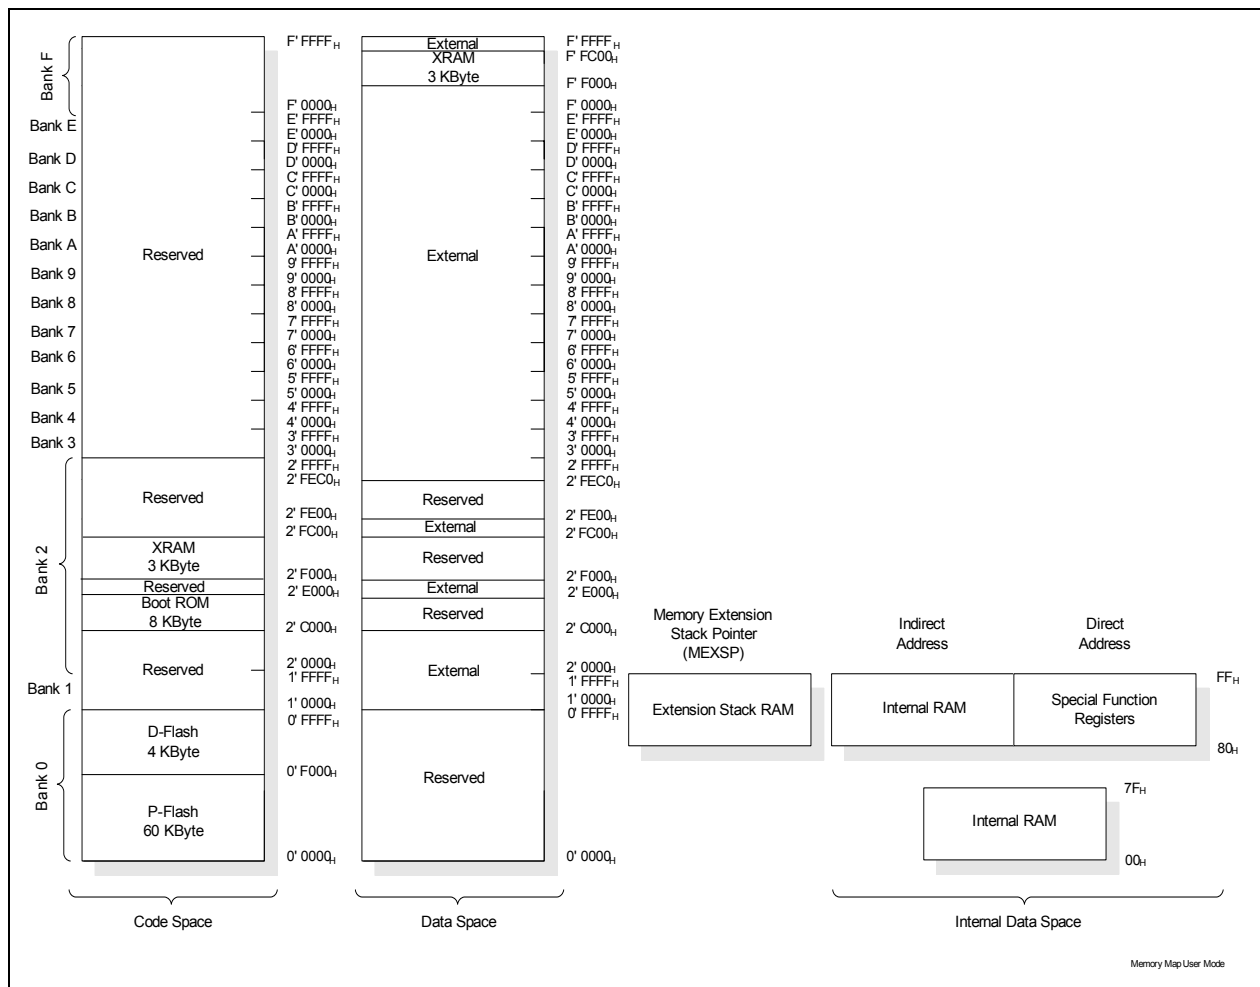
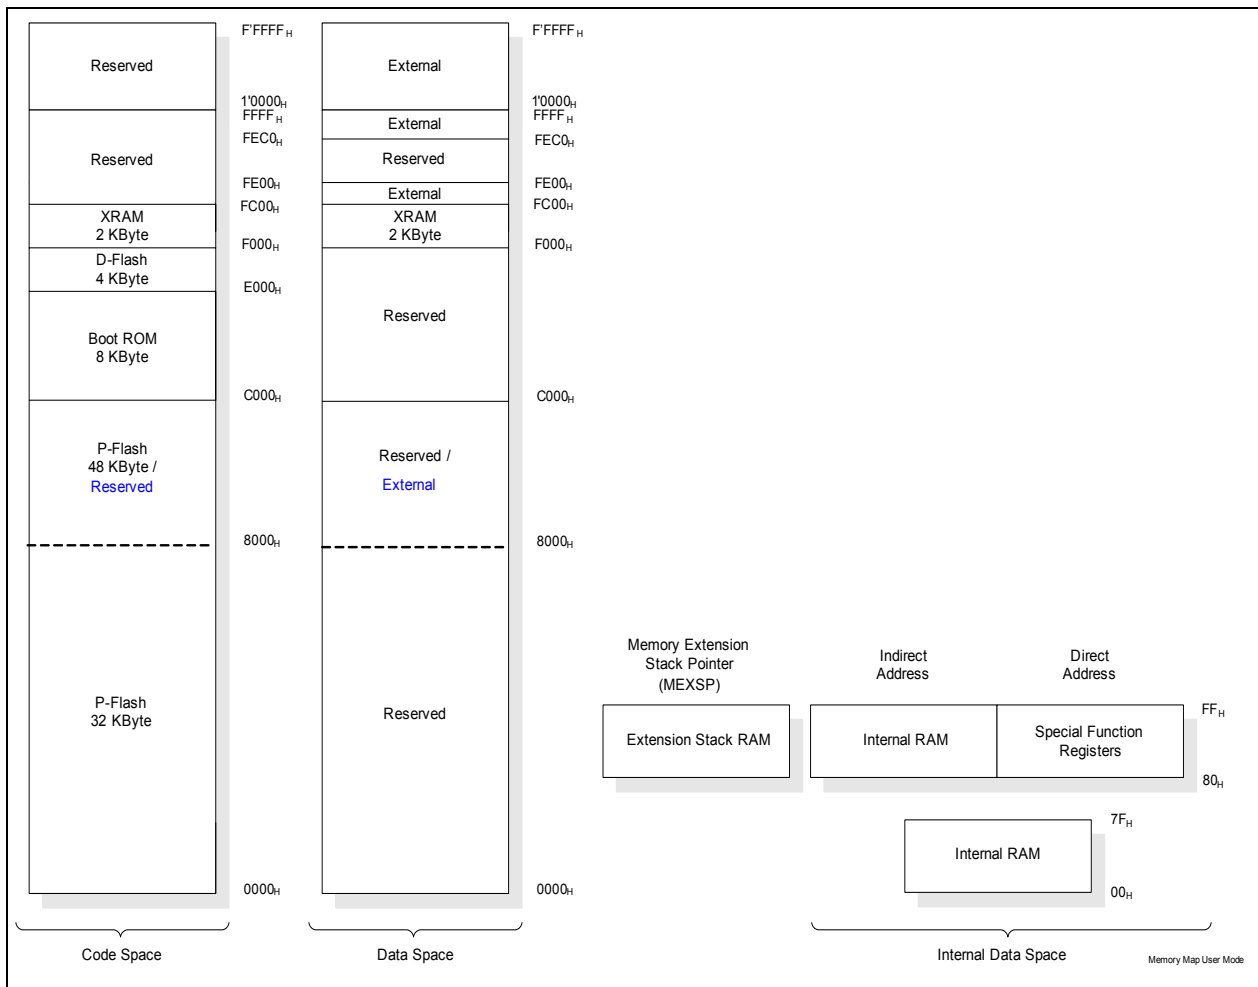

**Figure 7 Memory Map of XC87x with 64K Flash Memory in user mode**
**Figure 8** Memory Map of XC87x with 52K Flash Memory in user mode
**Figure 7** and **Figure 8** illustrate the memory address spaces of the XC87x with 64Kbytes and 52Kbytes embedded Flash respectively.